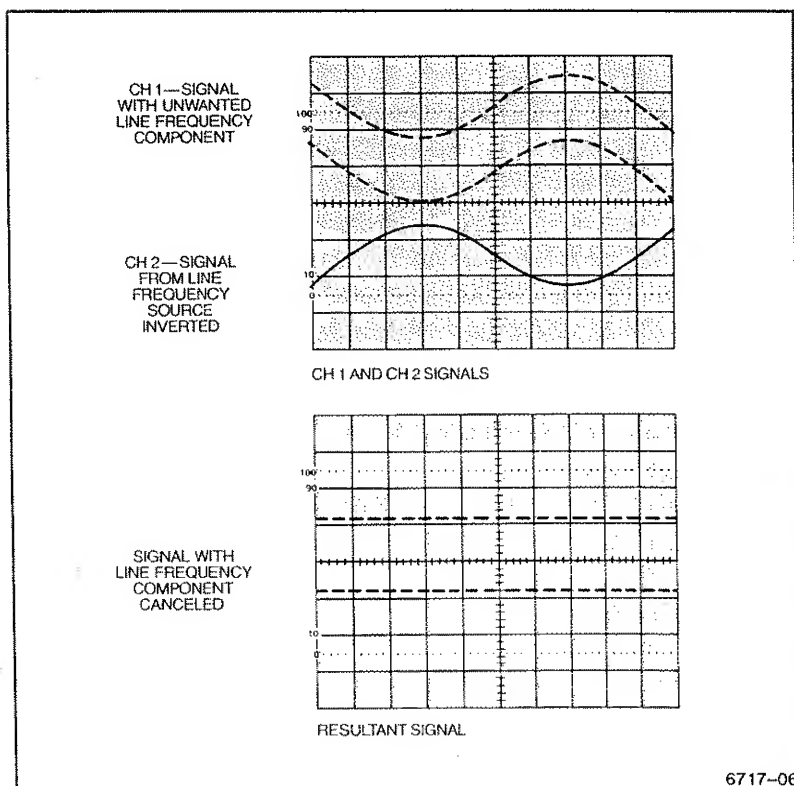

Figure 3-3. Common-mode rejection.
4. Adjust the CH2 VOLTS/DIV and Variable (CAL) controls so that the Channel 2 display is approximately the same amplitude as the undesired portion of the Channel 1 display (see Figure 3-3 top).
5. Now set the middle and right VERTICAL MODE selectors to CH2 INVERT and ADD. Slightly readjust the CH2 VOLTS/DIV variable control for maximum cancellation of the undesired signal component (Figure 3-3 bottom).